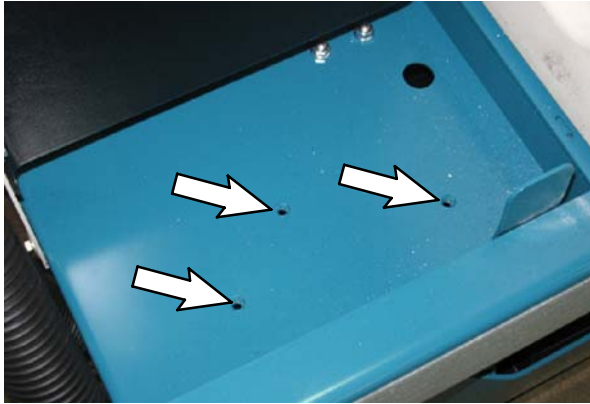

FIG. 13
23. Thread three M6 X 1.25 SEMS screws into the frame of the machine. Refer to Fig. 13.